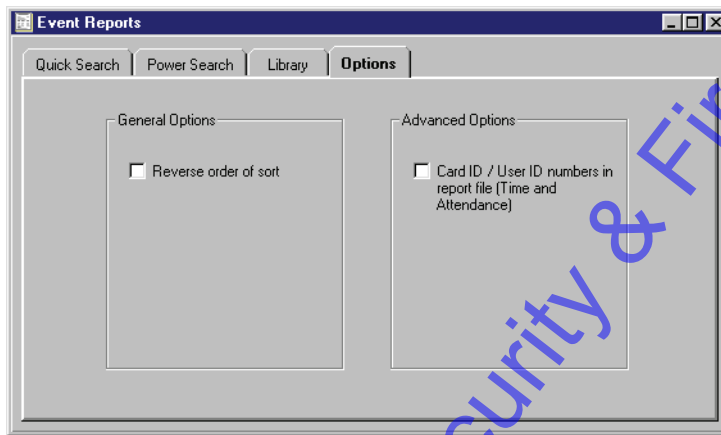

Figure 7-39: Power Search Options Tab
1. To reverse the sort order, click on the **Options** tab. The Options window appears (see Figure 7-39).
1. Click on the Options tab. The Options window appears (see Figure 7-39 on page 32 of this section).